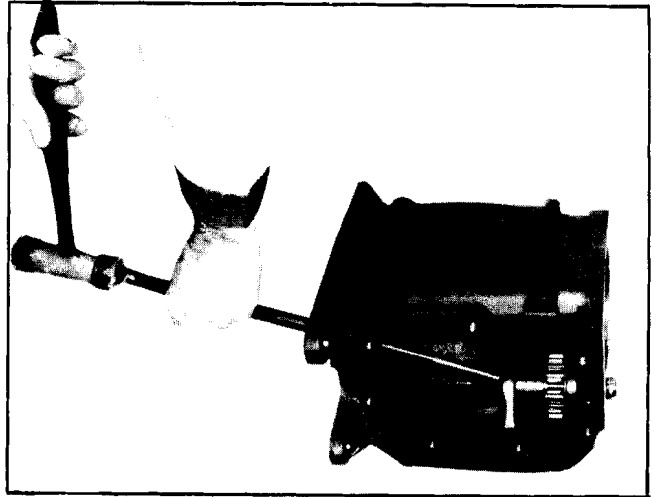

Fig. 7C-11 Removing Reverse Idler Shaft
14. Remove rear bearing snap ring from mainshaft groove (Fig. 7C-14).